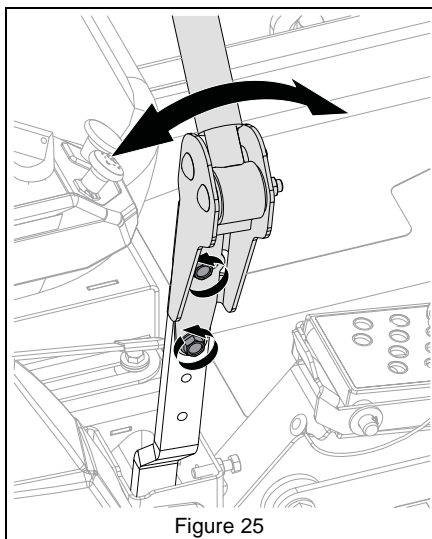

Figure 25
8. Loosen mounting screws, align levers and tighten screws. See Figure 25.